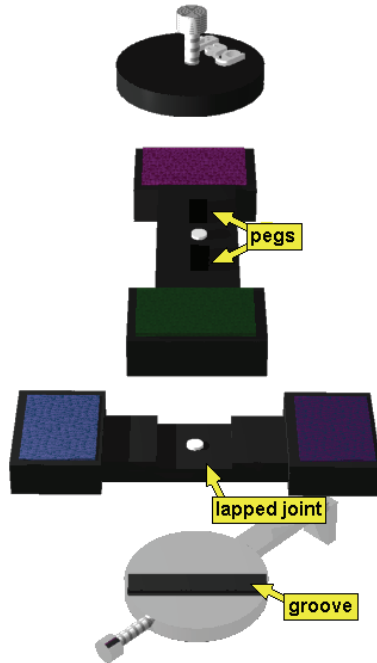

Figure 90 Assembling the filter brackets
4. Attach the 2 required filter brackets to the Fast Filter motor, as shown in Figure 90.